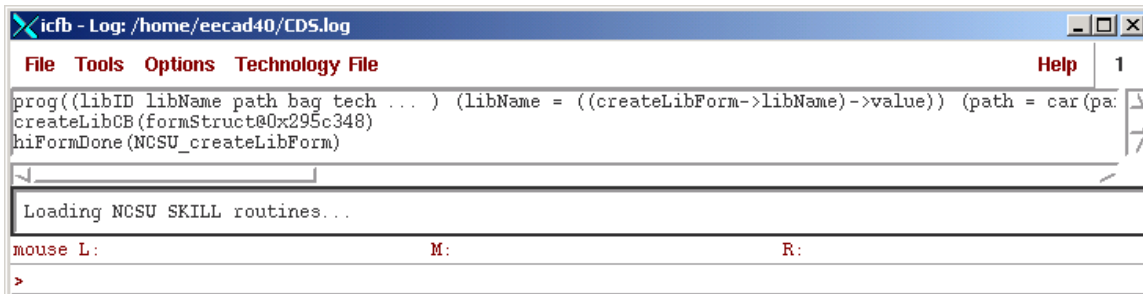

Figure 9: CIW messages while creating a library
3. Click OK. You should see messages in the CIW similar to the ones in Figure 9.